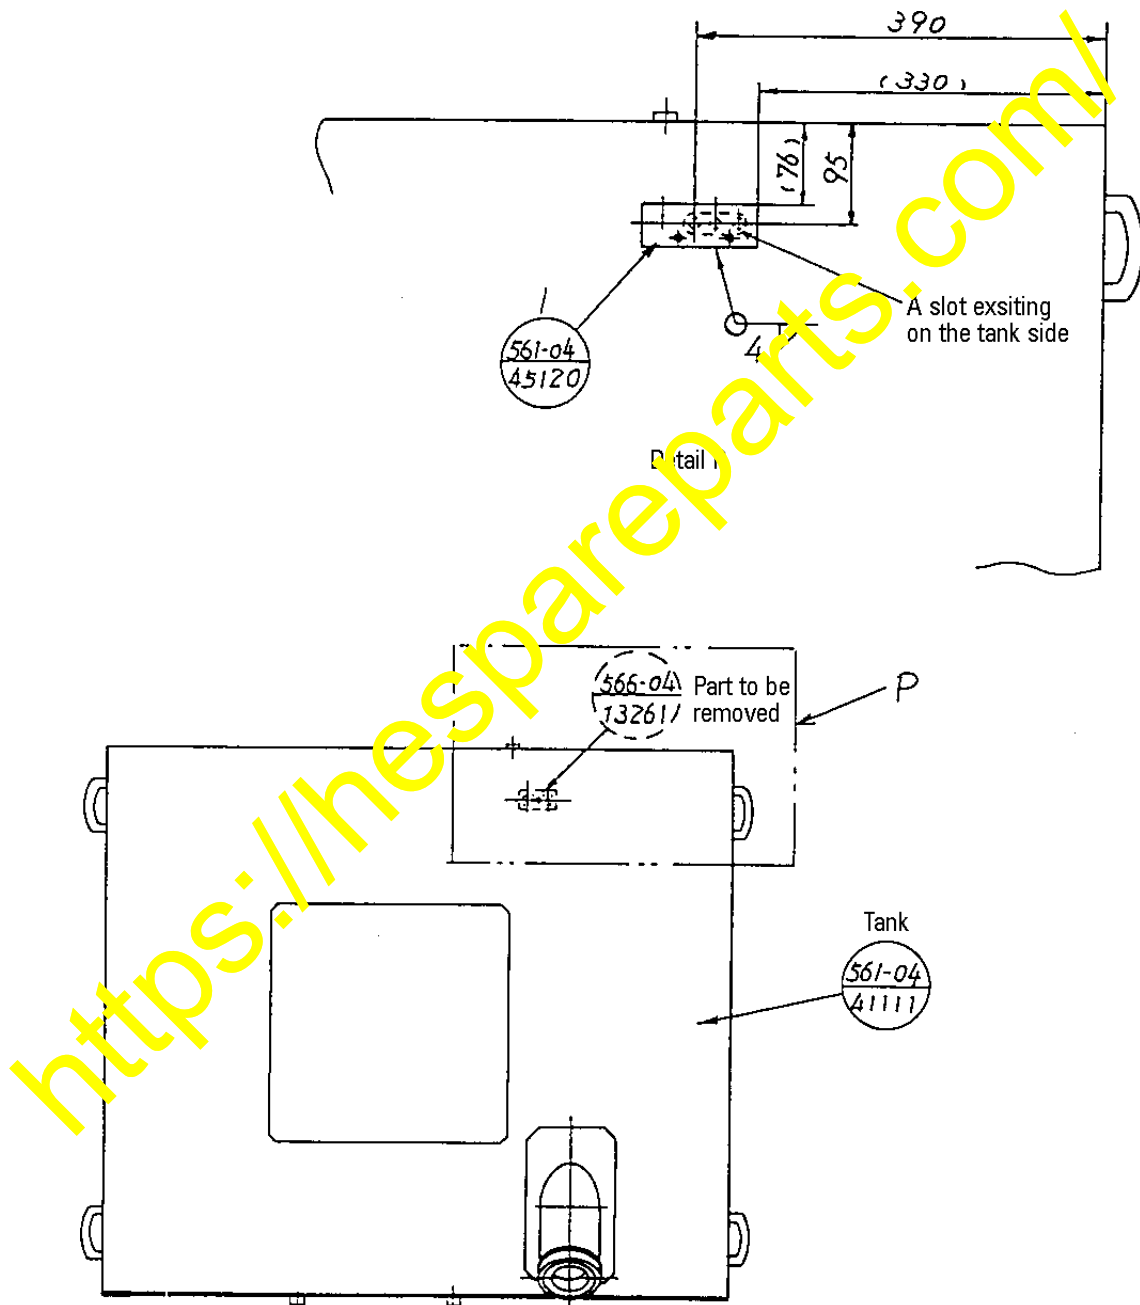

Fig. 15
- (2) Rework FUEL TANK (561-04-41111) as follows: (See Fig. 15)